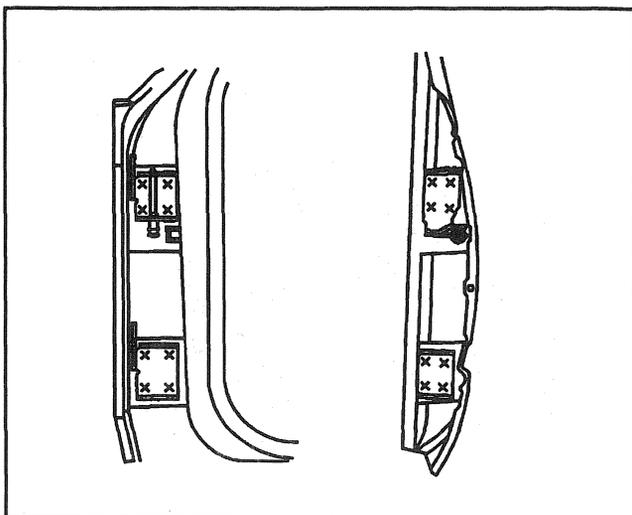

Figure 15—Spot Weld Locations
←→ Remove or Disconnect (Figures 15 through 17)
- B. Center punch each of the weld marks on the original hinge (Figure 15). It is critical to punch the center of the weld so that all of the weld is removed during drilling.